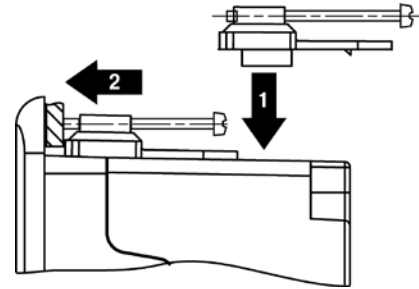

Fig. 4
- Insert the screws and tighten them to fix the device (see Fig. 4). **Do not overtighten the screws!**